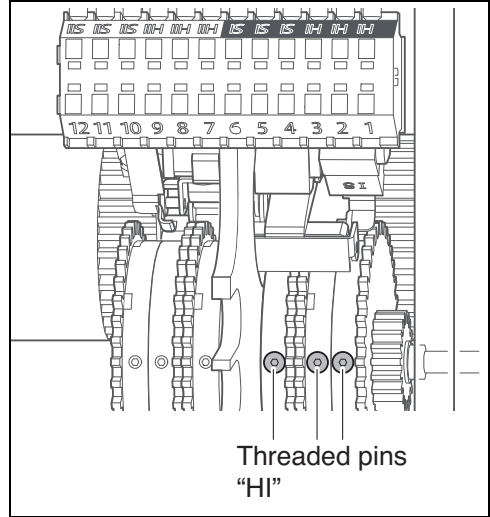

Fig. 13
- ▶ Tighten the 3 threaded pins in the adjusting rings of limit switch “II” using a torque spanner and a tightening torque of 1.33 lbf-in (0.15 Nm) (see Fig. 13). A suitable torque spanner is available as an optional Lock accessory. Alternatively, the SW 0.06 in (1.5 mm) Allen key provided can be used for this purpose. To do this, tighten the threaded pins until you feel a slight resistance through contact with the plastic wheels. Now tighten the threaded pins 3-4 turns further. This alternative roughly corresponds to the ideal procedure with the torque spanner. A deviating tightening torque can lead to malfunctions or damage to the limit switch.